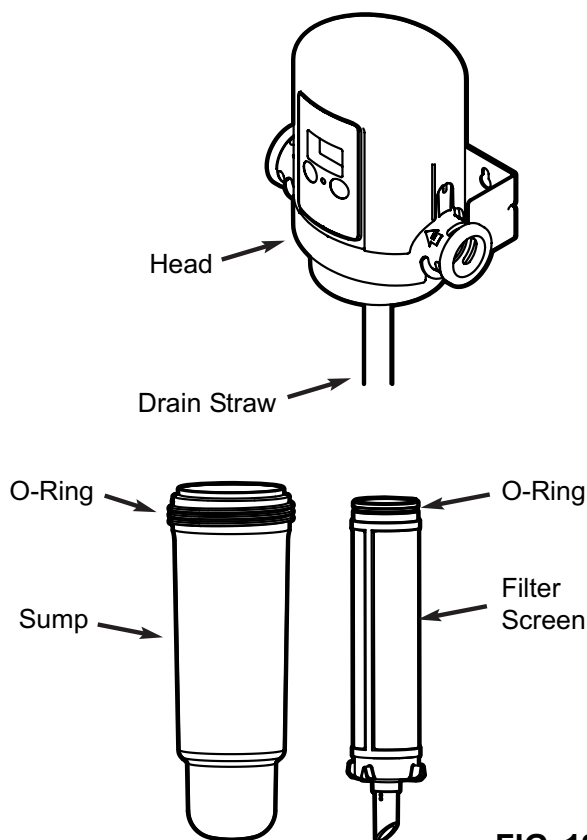

FIG. 19
5. Remove the filter screen assembly by pulling it down out of the ASF head (See Figure 19).
7. The drain straw may have come out of the ASF head when the sump and filter screen were removed. If so, reinsert it into the small hole at the center of the head assembly (See Figure 19).
8. Make sure the o-ring is in place on the filter screen assembly (See Figure 19). Make sure that no sediment particles are on the o-ring or the corresponding sealing area in the head. Slide the filter screen over the drain straw and into the corresponding hole at the center of the ASF head. Push it in to engage the o-ring seal.
9. Make sure the large o-ring is in place on the sump (See Figure 19). Make sure no sediment particles are on the o-ring, sump threads or corresponding threads in the ASF head. Slide the sump over the filter screen and screw it into the ASF head to seal. Do not overtighten.